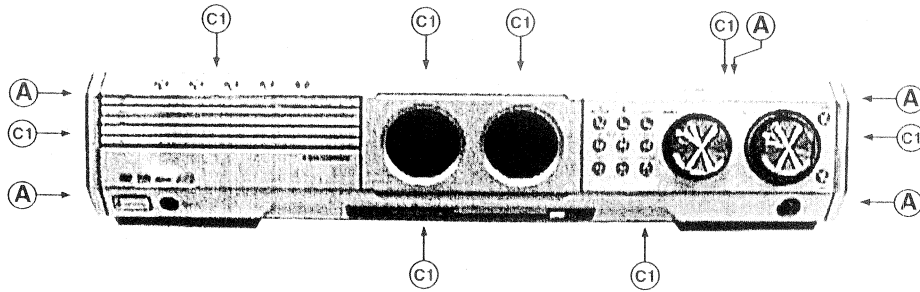

Figure 1
- 1) Loosen the 9 screws to dismantle the Top Cover (pos 252)
- 5 screws on the Rear Panel (pos 251).
- 2) Loosen 5 screws A and 8 catches C1 to slide the Front Panel assembly (pos 101, 102, 103, etc) as per figure 1.